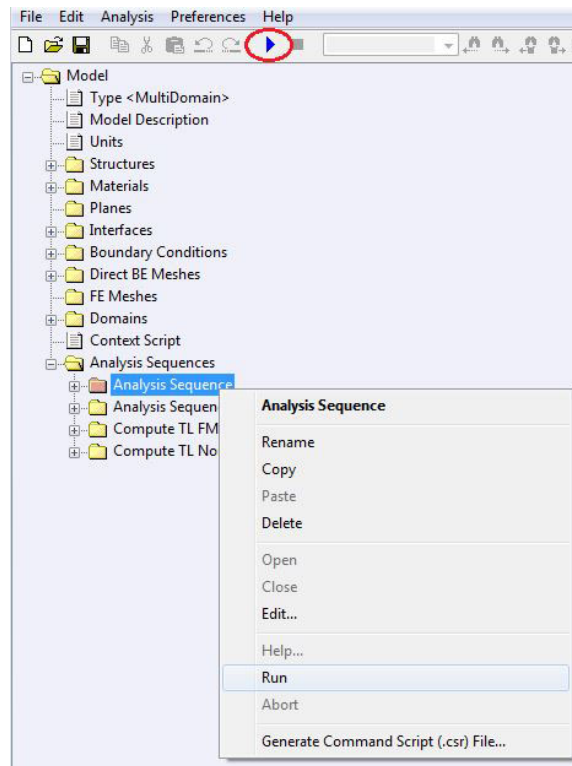

Figure 7.3 Run new analysis sequence.
- **Run an Analysis Sequence.** To run acoustic analysis right-click on the desired analysis sequence and select **Run**. You could also run a selected analysis sequence from the Main menu: **Analysis** → **Run** or by clicking on the blue run button (Figure 7.3). Make sure *Coustyx* model setup is completed before running the analysis.